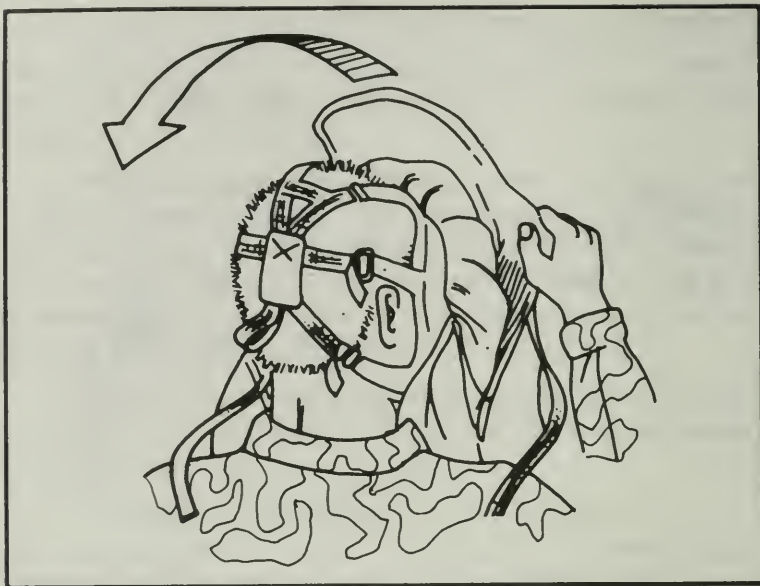

Figure 313. Pulling hood over head.
n. Grasp the back edge of the hood skirt (Figure 313) and carefully pull your hood over your head so